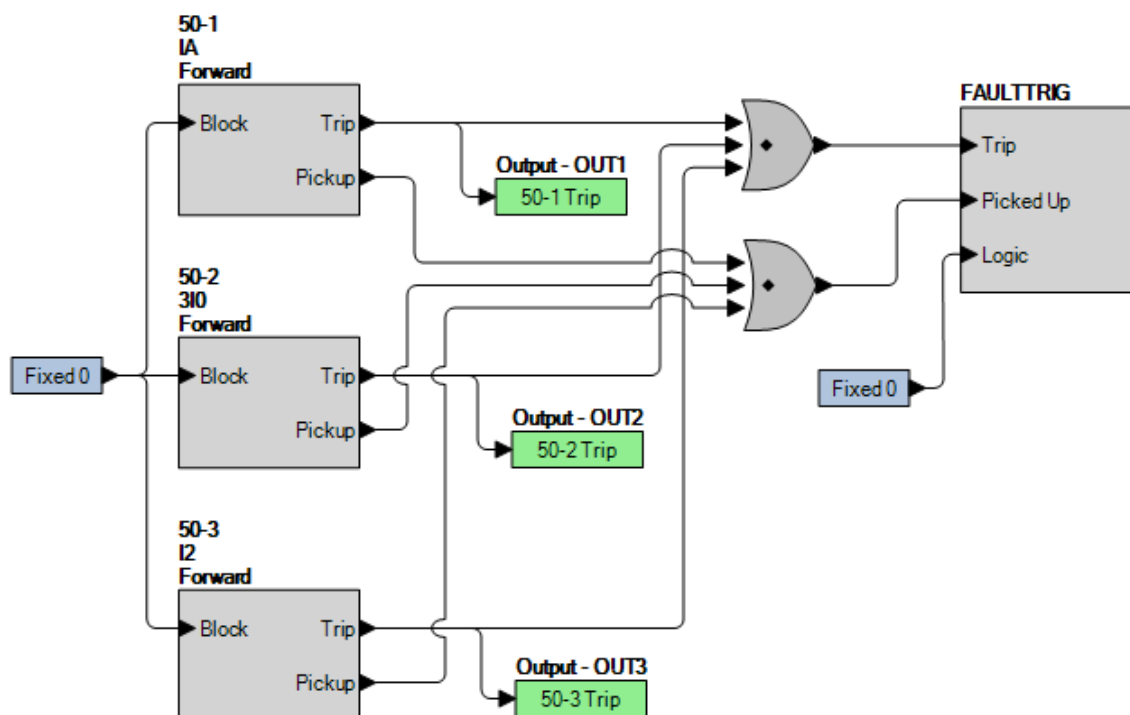

Figure 65-1. BESTlogicPlus Settings
Step 2: Use BESTCOMS*Plus* to configure the BESTlogic*Plus* programmable logic shown in Figure 65-1.